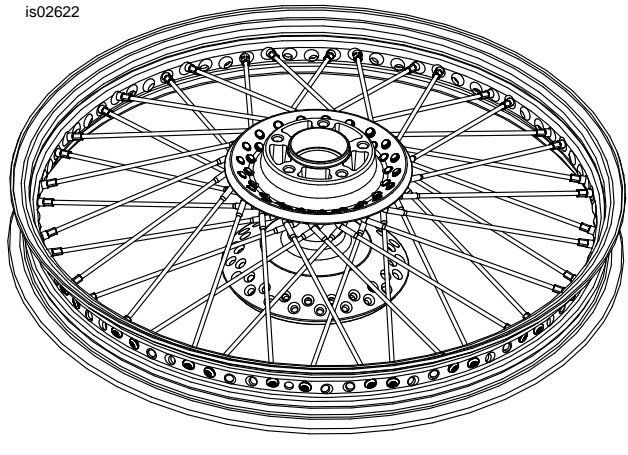

Figure 6. Install Inner Spokes
5. See Figure 6. Insert the first **inner** row spoke into the hub. Angle the spoke counterclockwise crossing **four** outer row spokes. Loosely assemble the spoke nipples.